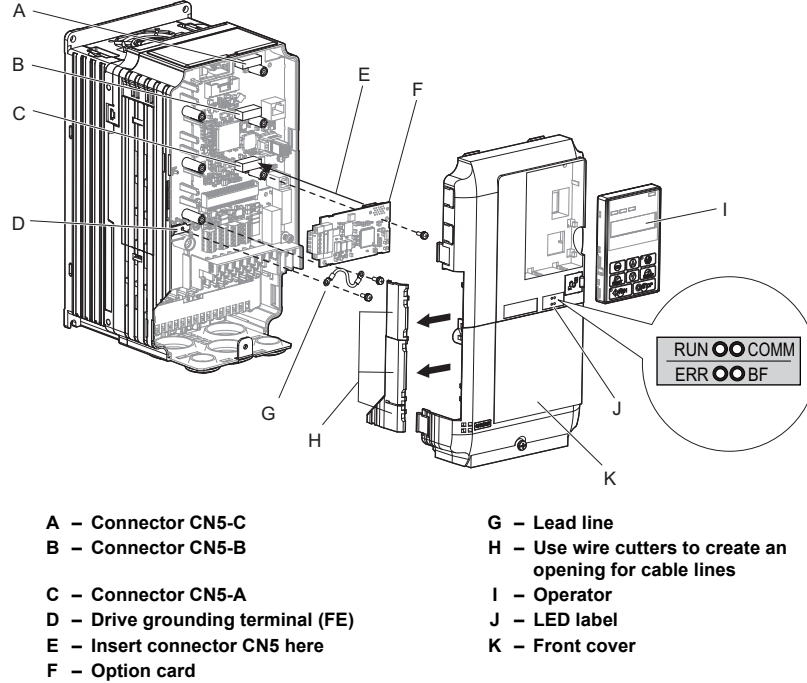

Figure 5 Installing the Option Card
5. Attach the LED label packaged with the option card as shown in Figure 5.